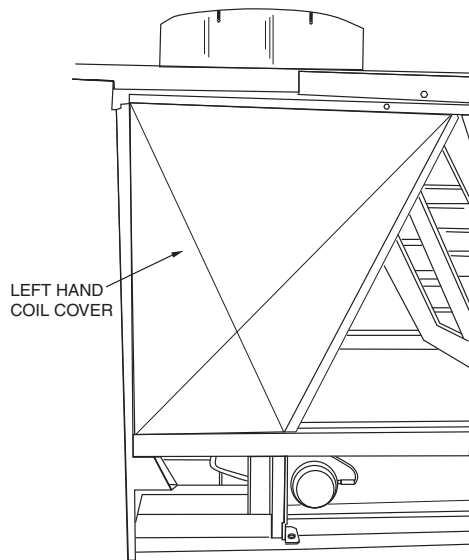

Fig. 2 — Installation of Left Hand Cover
3. Using screws provided, install a left hand and right hand coil cover on each side of the chiller. See Fig. 2 and 3.